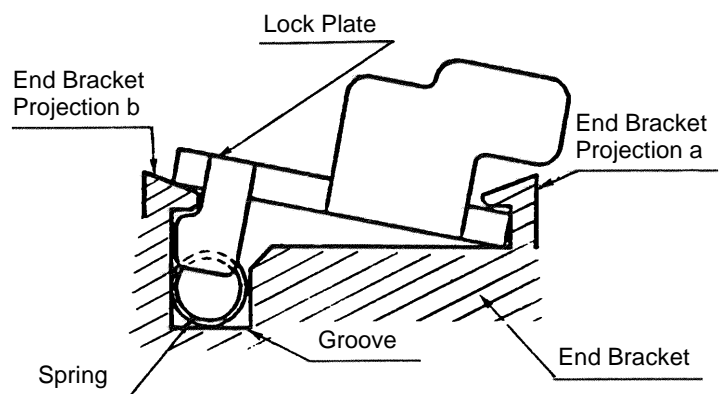

Fig. 18
- Insert the Spring (57) into the groove on the End Bracket (40).
- As illustrated in Fig. 18, insert the Lock Plate (58) under projection a of the End Bracket (40). Then, compress the Spring (57) while pushing the opposite end of the Lock Plate (58) under projection b of the End Bracket (40).